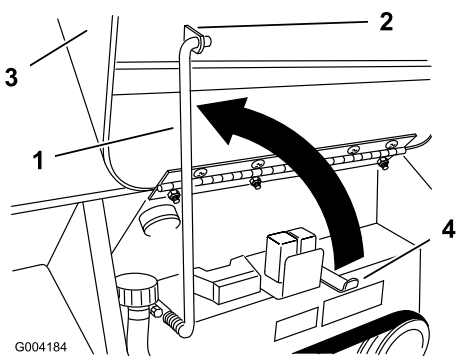

Figure 28
4. Swing the prop rod up and secure it in the bracket on the hood (Figure 28).